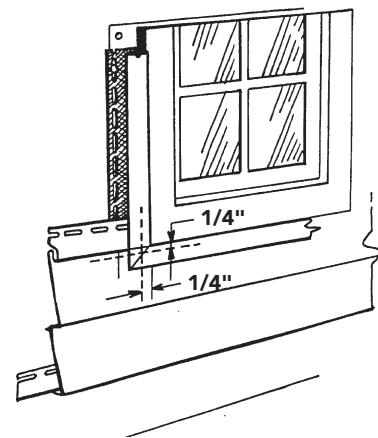

Figure 40
- Hold the panel under the window and mark the width of the window opening on the panel. Add approximately 1/4" (6.4mm) to both sides to allow for expansion and contraction of the siding. These marks represent the vertical cuts (Figure 40).